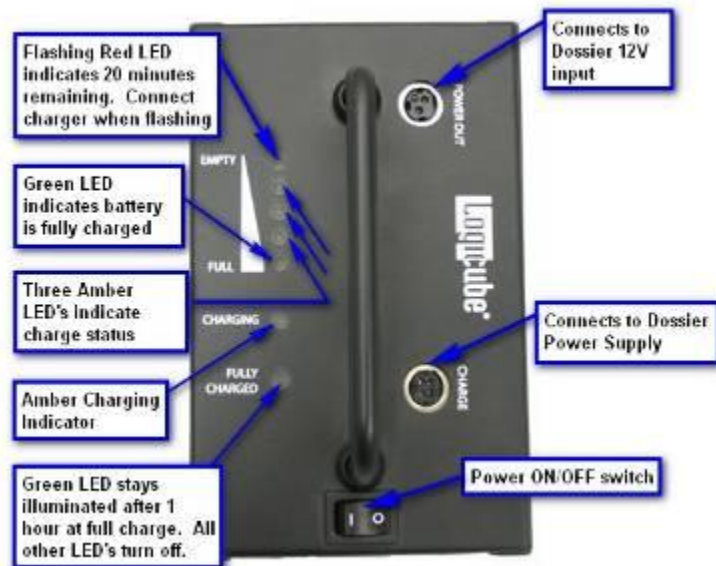

Figure 14, Clone Card Pro
3. At this point an Amber colored LED will illuminate next to the word CHARGING irrespective of the position of the on/off switch. This amber LED indicates the battery is charging. A row of five LED's grouped together indicate the batteries current charge status and become visible during charging or anytime the power switch is in the ON position. See Figure 14 for details.